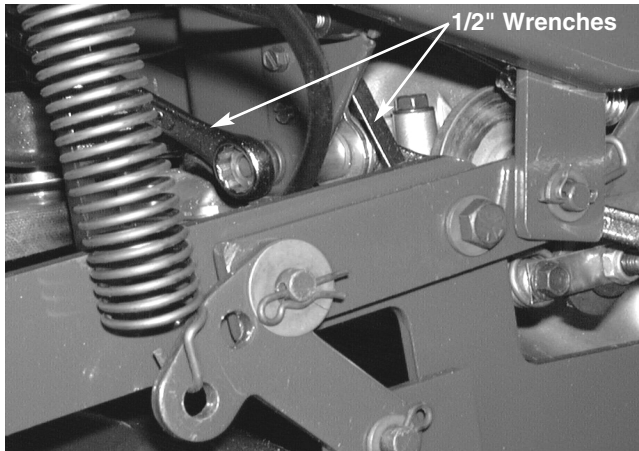

FIGURE 5.
- 8). Remove the hex nut and lock washer from the shift lever cap screw using two 1/2" wrenches. See figure 5.